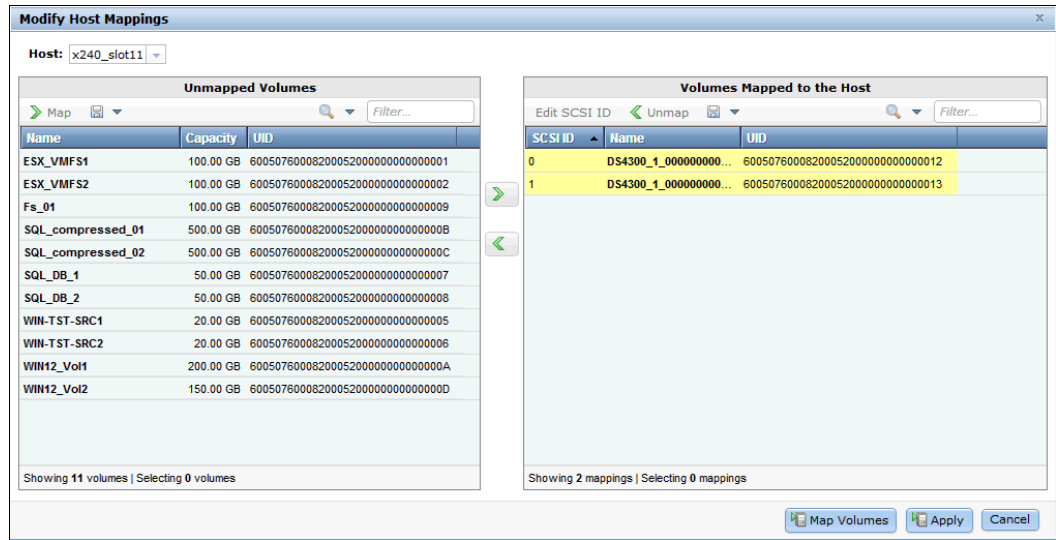

Figure 7-17 Storage Migration Wizard s- Apply Mapping to Windows 2008 host
- Map the newly migrated volume to the host, and when the mapping is complete, click **Apply** or **Map Volumes** as shown in Figure 7-17.